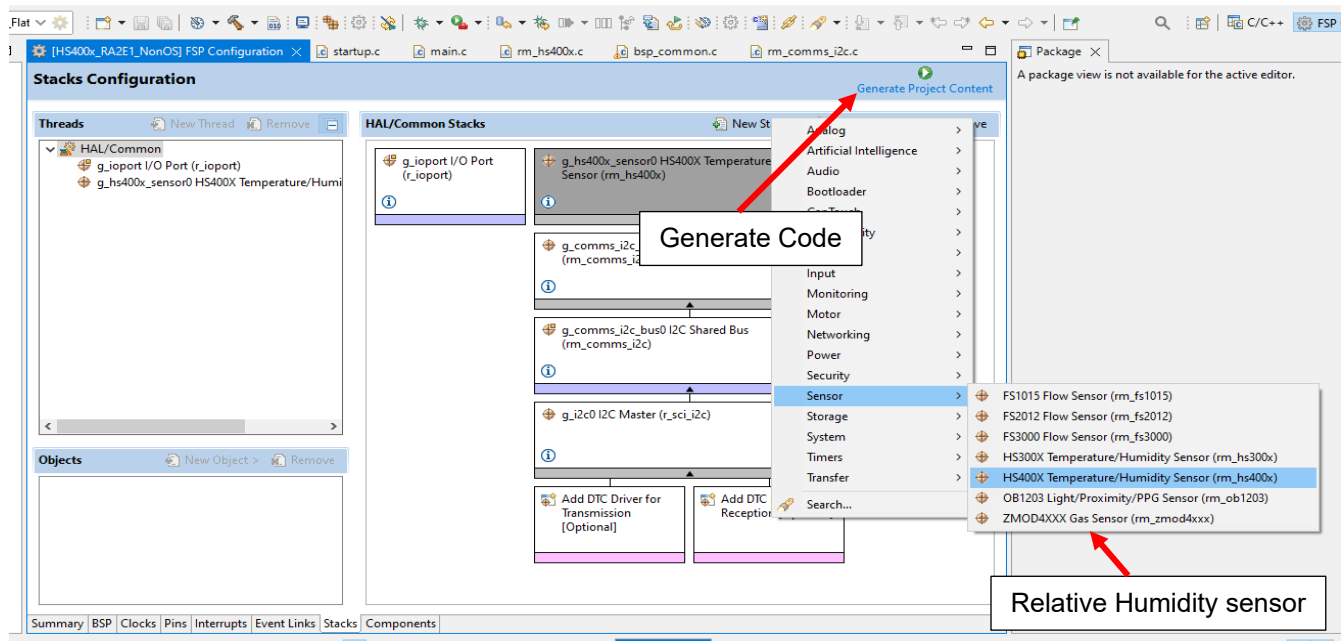

Figure 4. Stack Selection in Renesas e2 Studio
1. Navigate to the FSP Configuration View / file. In the case shown in Figure 4, select the r_hs4001_rx.